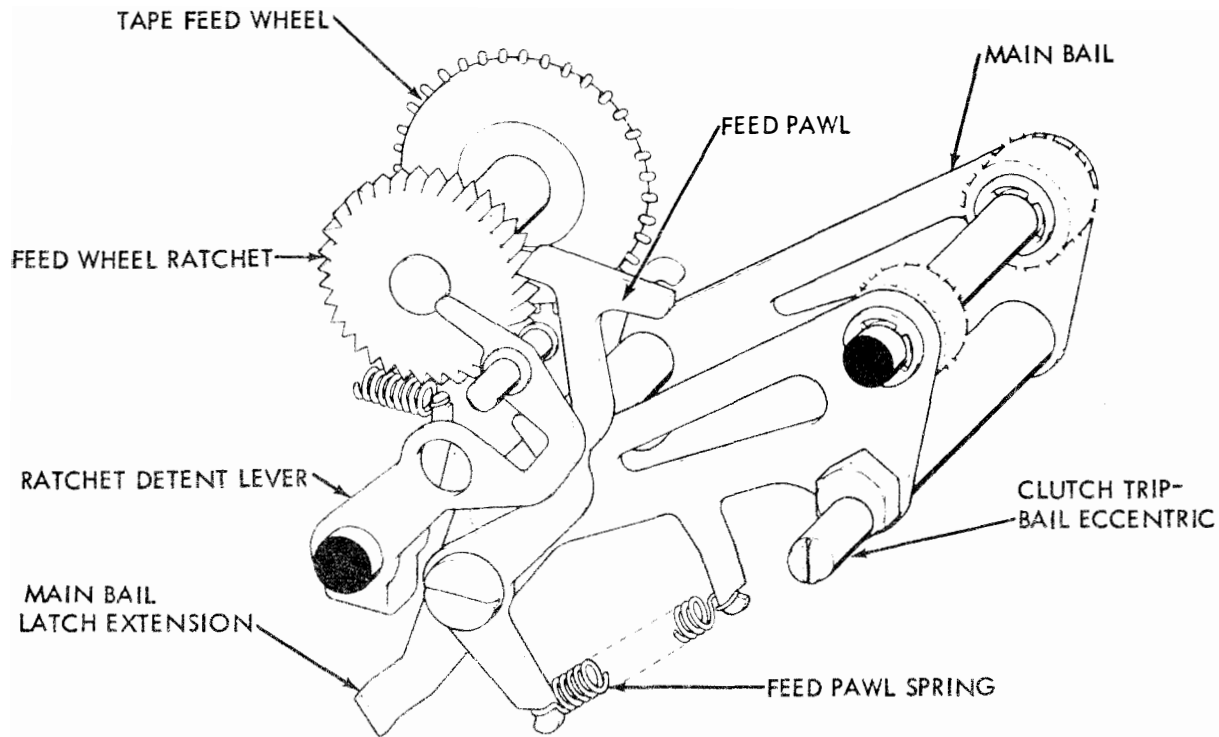

Figure 12 - Tape Feed Mechanism - Rear View
2.08 The feed pawl is raised one tooth on the feed wheel ratchet. Figure 12.
2.21 The tape feed pawl advances the tape feed ratchet one tooth against the action of the ratchet detent roller. The tape feed ratchet is part of the tape feed wheel. The tape feed wheel advances the tape one character. The ratchet detent roller bears between two teeth on the ratchet and serves to hold the feed wheel and tape in position during the sensing portion of the operating cycle. Figure 12.